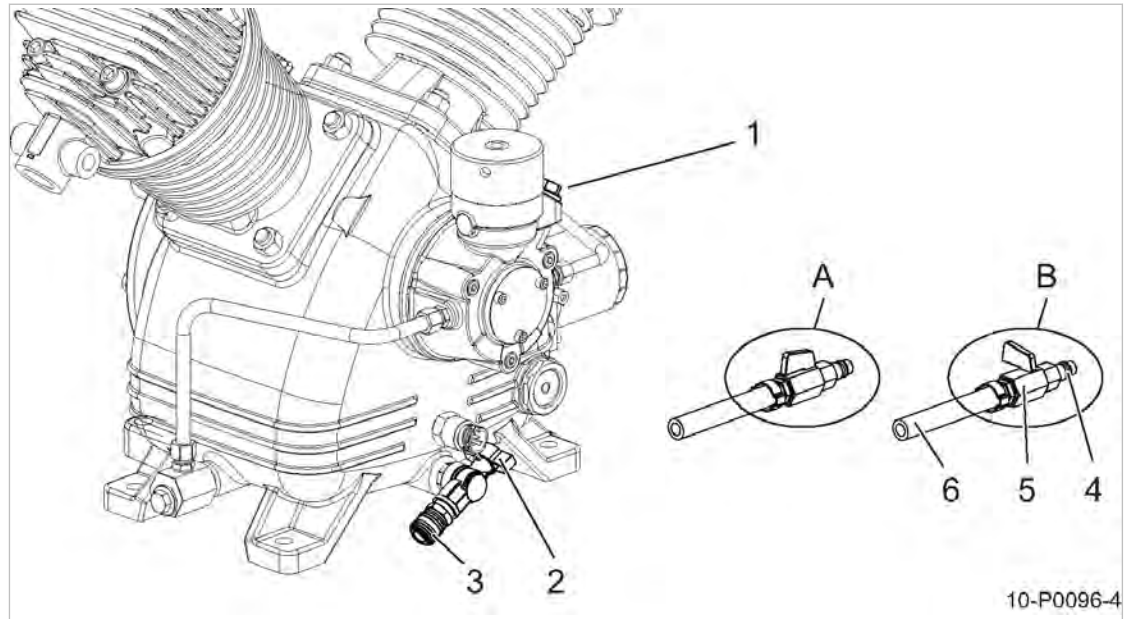

Fig. 40 Changing the compressor oil
1. Open the filler plug ① (Fig. 40) slowly.